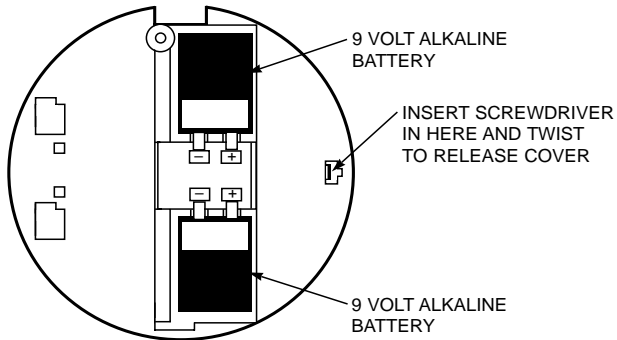
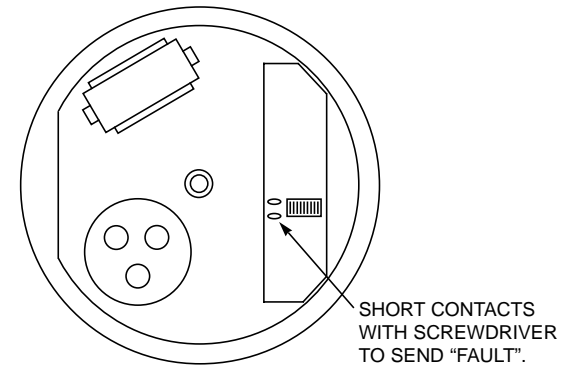

Figure 2. Bottom View of Smoke Detector (mounting bracket removed)
Figure 3. Interior view of Detector
1. The detector's battery compartment cover/mounting bracket should have been removed, as previously indicated. See Figure 2.
When prompted for the serial number, either enter it manually, or transmit from the unit (press the test switch, short the contacts, etc.) To gain access to the special shorting contacts provided for programming purposes, insert the blade of a small screwdriver into the opening in the detector base (see Fig. 2 for location) and twist. This will release the main cover which will then swing away, providing access to the interior of the detector, as shown in Figure 3. With the QED control in the programming mode, short the two contacts in the detector (shown in Figure 3) with a small screwdriver to transmit a signal. See the QED control unit's installation Instructions for further details. When this procedure has been completed, swing cover down firmly to secure.